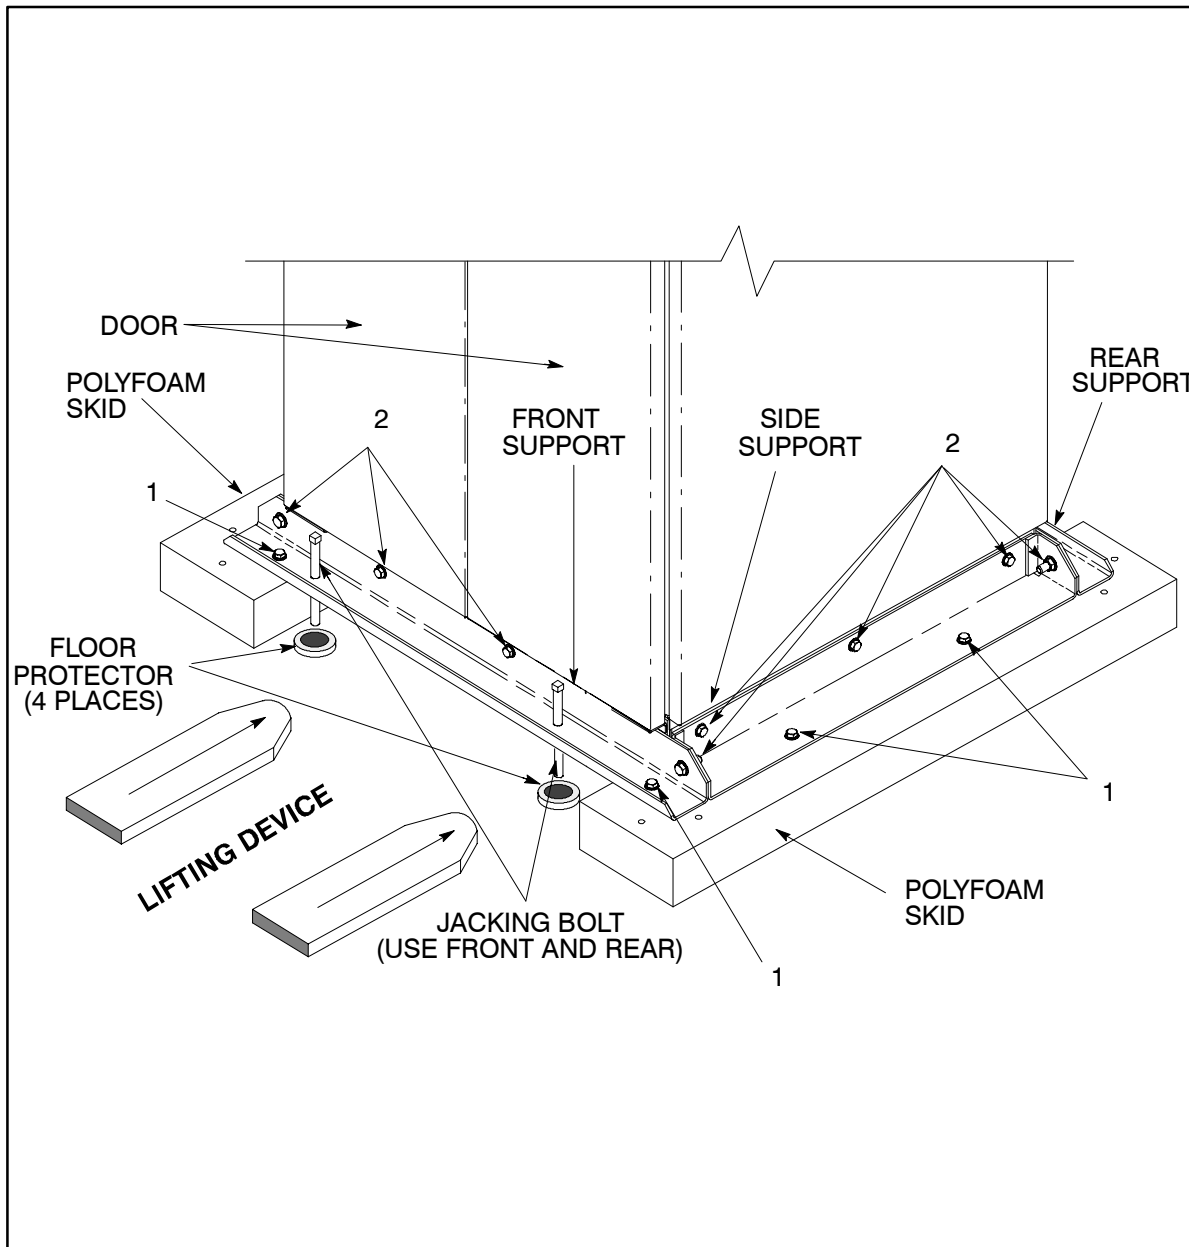

Figure 4. Detail of Shipping Supports
3. Loosen, but do not remove the hardware holding the plywood/polyfoam skids to the front and rear supports (labeled "1" in Figure 4 – 8 places).
- 8.** Remove the hardware labeled “2” in Figure 4, holding the front, rear and side supports to the module base (14 places). Discard or recycle the hardware and support brackets in a responsible manner.